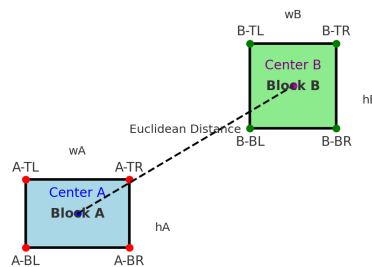

Figure 1
1. **Minimizing the total wiring distance:** Figure 1 above explains how the center-to-center wiring length can be calculated when both the blocks' height, width (w_A , h_A , w_B , h_B), and any single pair of corner points are given [suppose, bottom left of A (A-BL) and bottom left of B (B-BL) are given]. This is essentially the Euclidean Distance between